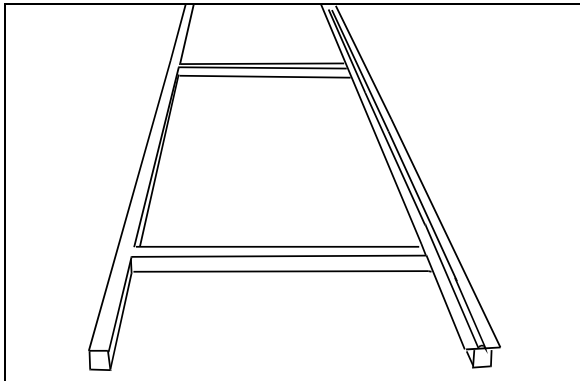

FIGURE 28: SUPPORT RAIL INSTALLATION 06501
2. Set the support rail (Prevost #29261) down (Fig. 28). Using shims, adjust its level to stabilize it.
1. Set the support rail (Prevost #29261) down (Fig. 28). Using shims, adjust its level to stabilize it. Use previous reference marks to ensure proper positioning.